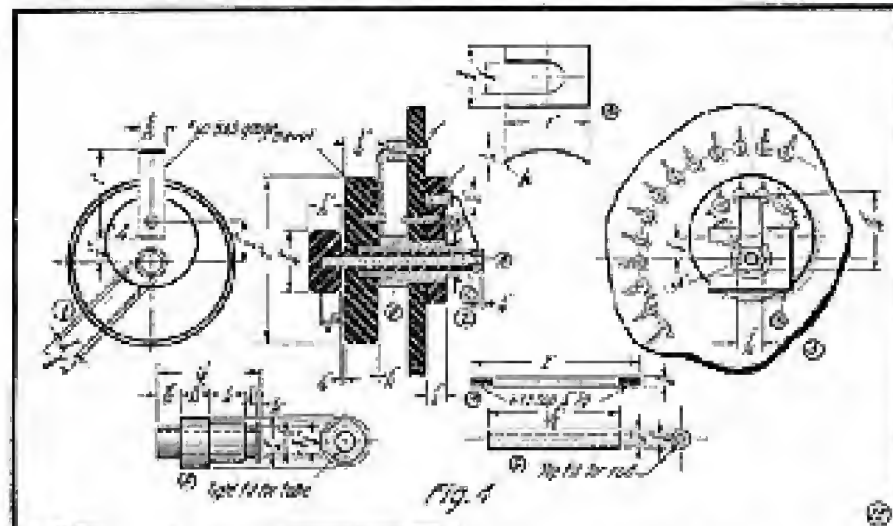

Fig. 4. Parts Making Up "Primary" Switch of Condenser.
The parts of this switch must be turned out exactly. Fig. 4 gives the details. (1) shows the underside of the handle; (2) is a section through the switch; (3) is the back side of the switch, showing the compensation. The large